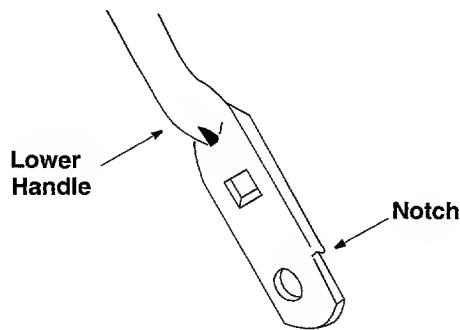

Figure 12
4. Turn the lower handle around so the notches on the bottom of the lower handle are facing forward. See Figure 12. Reassemble, placing the bottom holes in the handle over the weld pins in the handle mounting bracket.